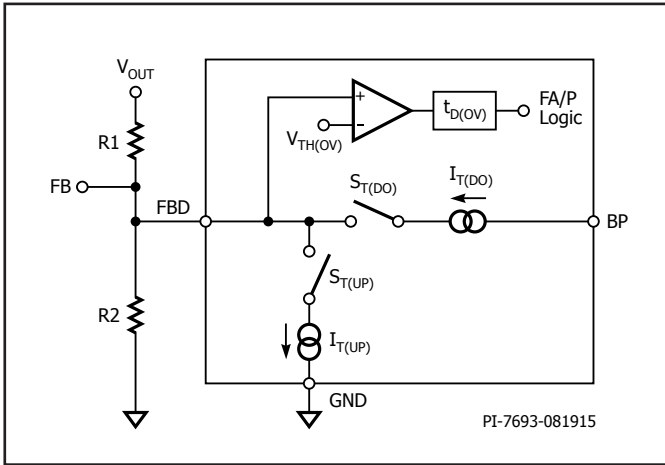

Figure 6. CHY103 FEEDBACK Pin Drive Output and Overvoltage Monitor Input.
CHY103 sets the respective output power supply voltage regulation point by directly driving the reference input of the power supply control loop error amplifier through an internal current sink I_T(UP) and source I_T(DO) (see Figure 6).
CHY103 monitors the voltage present at the FEEDBACK DRIVE pin in order to prevent excessive output voltage levels in case the power supply control loop lost regulation. The OV comparator threshold $V_{TH(OV)}$ (see Figure 6) is adapted to the set output voltage level (5 V, 9 V, 12 V, or 20 V) outside Quick Charge 3.0 continuous mode. As soon as the output voltage reaches 120% of the set output voltage CHY103 activates the protection mode if the OV fault is present for at least 50 μ s. Adaptive OVP is blanked for 500 ms when set output voltage is stepped down outside of continuous mode (for instance from 9 V to 5 V).